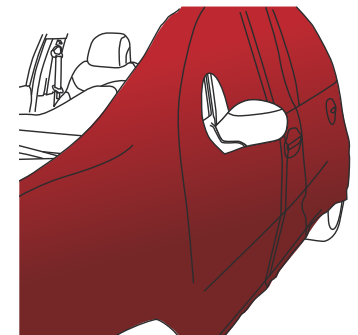

Figure 22
- › The film is stretched over the entire surface area to be wrapped. Now you can apply the film (FIG. 22) according to the type of surface.